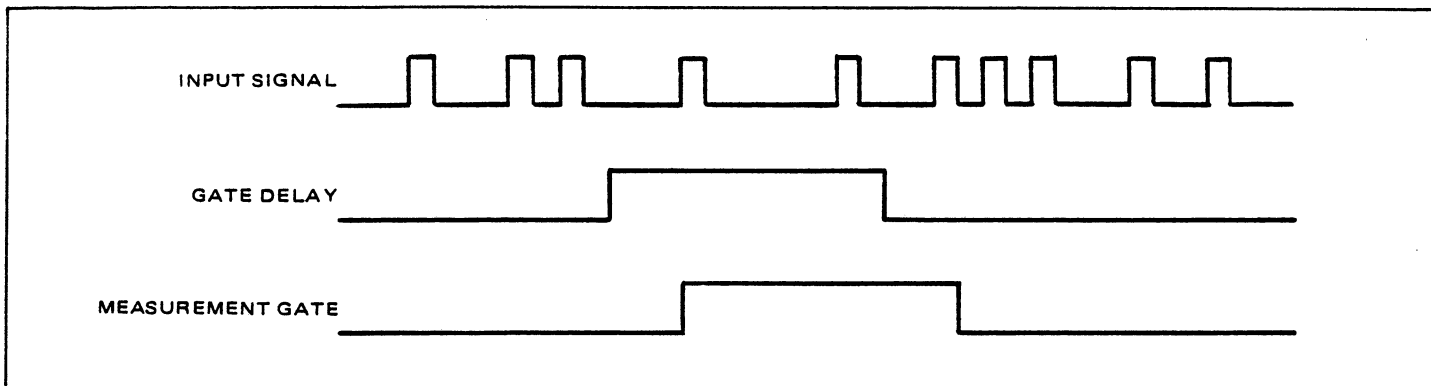

Figure 2.8 - Selective Gate Control Mode Timing
2.13.3.1 This mode is designed to give the user absolute control over both the opening and closing of the measurement gate. Simply stated the measurement gate cannot open on the transition of the input signal unless the gate delay signal is high and once opened the measurement gate cannot close until after the gate delay signal goes low. This means the user can define the timing and period of the measurement gate with the gate delay signal. Typical timing relationships are shown in Figure 2.8. Note that the measurement gate opening and closing is *controlled* by the input signal and *conditioned* by the gate delay signal.